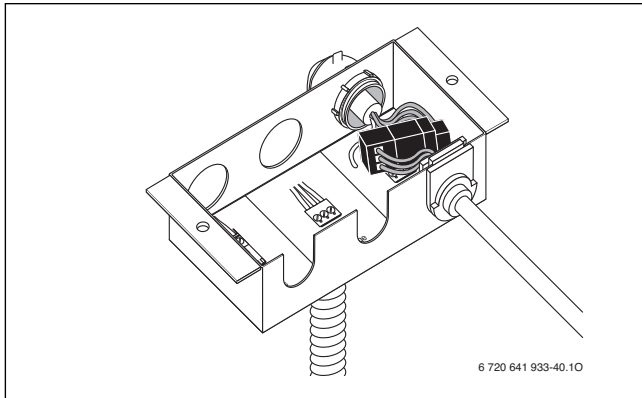

Fig. 53 Cable connected (external pump)
- ▶ Insert cable into the junction box as shown in Fig. 53.